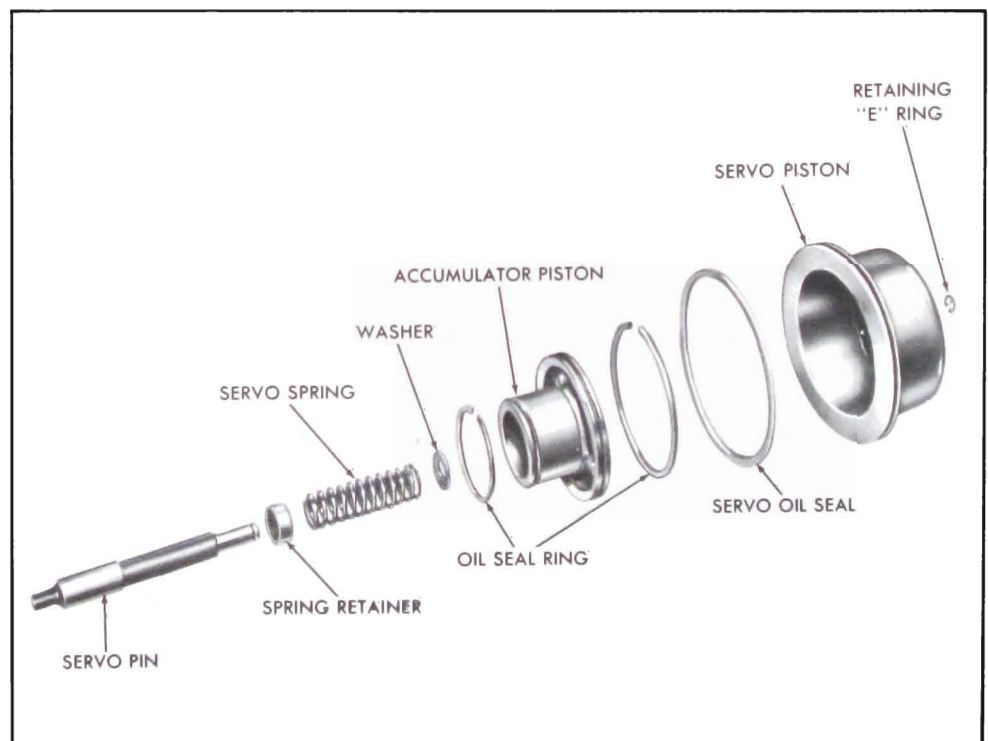

Figure 5-574
1. Install spring retainer, spring and washer on band apply pin. See Figure 5-574.